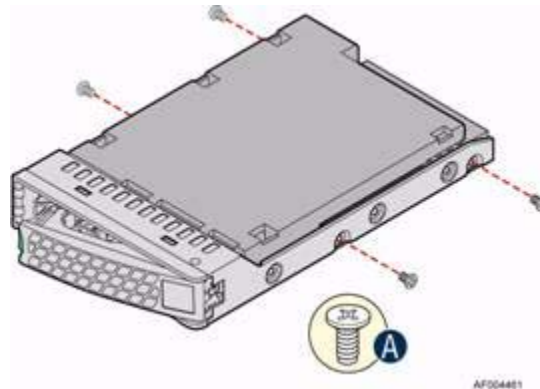

Figure 4-5 Installing 3.5” HDD into Carrier
1. Remove the four screws securing the HDD interface bracket and install the HDD with the screws shown in Figure 4-5.